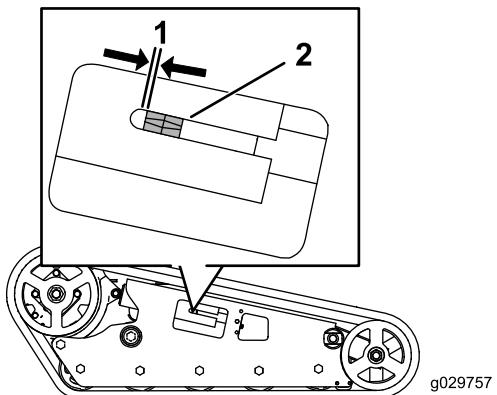

Figure 52
The tension nut should be 0.64 cm (1/4 inch) away from the tangent of the tension tube slot (Figure 52). If it is not, adjust the track tension using the following procedure:
4. Using a 1/2 inch drive socket, turn the tensioning screw counter-clockwise until the distance between the tension nut and the back of the tension tube is 0.64 cm (1/4 inch), as shown in Figure 52.
10. Turn the tensioning screw counter-clockwise until the distance between the tension nut and the back of the fork tube (Figure 52) is 0.64 cm (1/4 inch).
10. Turn the tensioning screw counter-clockwise until the distance between the tension nut and the tangent of the tension-tube slot (Figure 52) is 0.65 cm (1/4 inch).